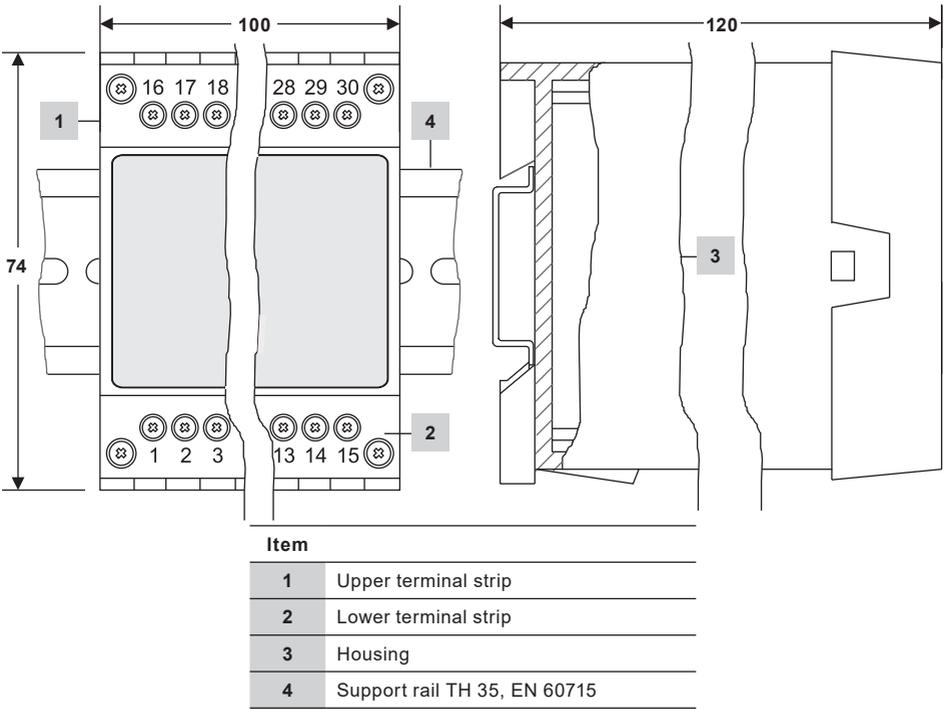

Fig. 1
The blowdown controller BCR3250 is clipped onto the support rail type TH 35, EN 60715 in the control cabinet. Figure 1, item 4